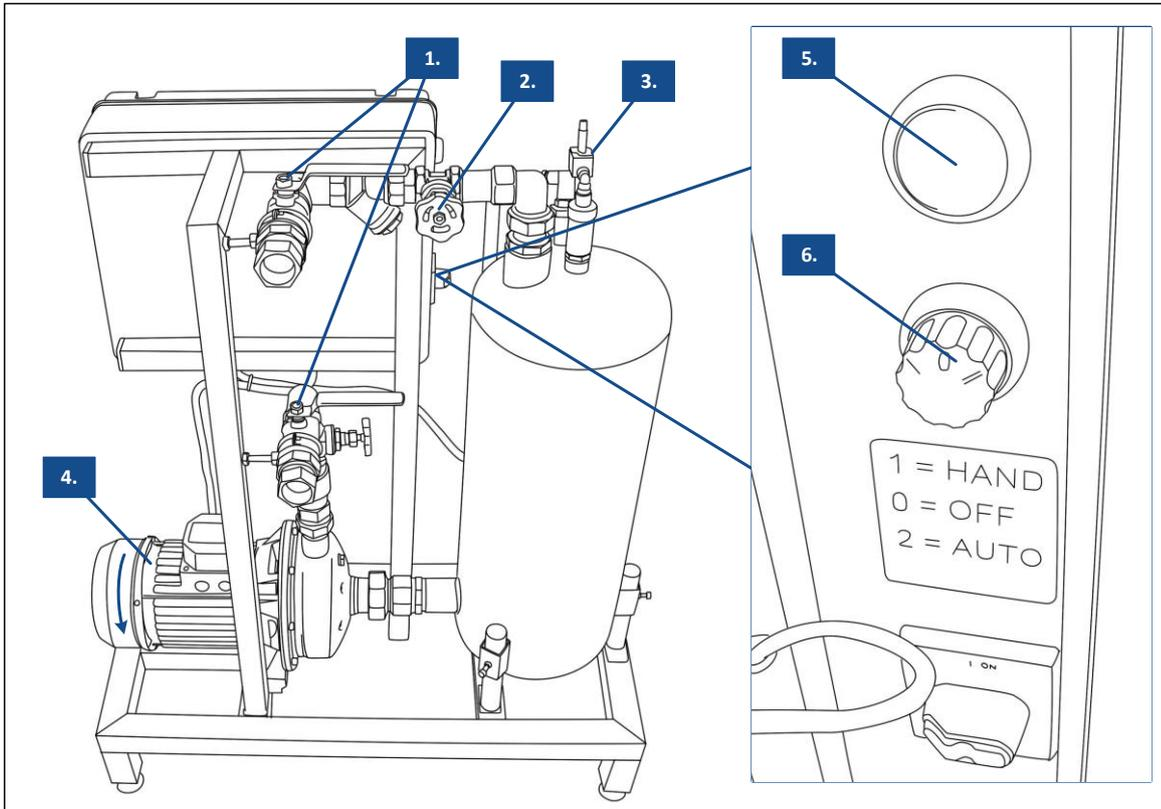

Figure 7. ExitOxy back view
When the ExitOxy is delivered it is already tested and adjusted. The ExitOxy is adjusted by adjusting the disc valves properly. The disc valves as in Figure 7. No. 2 are therefore sealed when the system is delivered. The disc valve on the inlet connection has to be newly adjusted since the water pressure of the system is different on every location. The seal on the inlet disc valve (Figure 7. No. 2) can be removed before the adjustment is made. Afterwards, this has to be returned.
- Open the ball valves in the inlet and outlet connections (Figure 7. No. 1).
- The air vent (Figure 7. No. 2) on the top side of the degasser tank will blow of air as the tank is filled up. When the air vent stops blowing off, the degasser tank is filled.
- Put the switch (Figure 7. No. 6) on position 1 (manual on) and push the reset button (Figure 7. No. 5). The pump will turn. Pay attention to the turning direction of the pump.
- Put the switch (Figure 7. No. 6) back to position 0 (Off) after 1 second turning to prevent damage to the pump.
- If the pump turns in the same direction as the arrow (Figure 7. No. 4) the direction is correct.
- If the pump turns in the opposite direction of the arrow (Figure 7. No. 4) the direction is incorrect. To correct this, 2 of the 3 phases have to be swapped. Refer to the directions in chapter 4 'Electrical connection'.
- Turn the disc valve in the inlet (Figure 7. ExitOxy back view. No. 2) to the left, completely open.
- Put the switch (Figure 7. ExitOxy back view. No. 6) to position 1 (manual on) to make the pump turn.
- Now, turn the disc valve (Figure 7. No. 2) in the inlet slowly to the right to close it until the pressure is between -0,85 Bar and -0,9 Bar.
- Put the switch (Figure 7. No. 2) on position 0 (OFF) so the pump stops and the pressure slowly increases. The pressure will increase to ± 1 Bar, which is usually the system pressure. Because of the increasing pressure the air vent won't blow off. (Figure 7. No. 3).
- The ExitOxy is now ready for use. Seal the disc valve (Figure 7. No. 2) again so it's not possible to simply adjust it.
- Put the switch (Figure 7. No. 6) on mode 0 (OFF) while the pump is turning. The pump will stop turning so the degasser tank can fill up with water. If the water is not completely degassed, the released air will cause an overpressure in the degasser tank. This air will be blown off through the air vent on the degasser tank (Figure 7. No. 3).